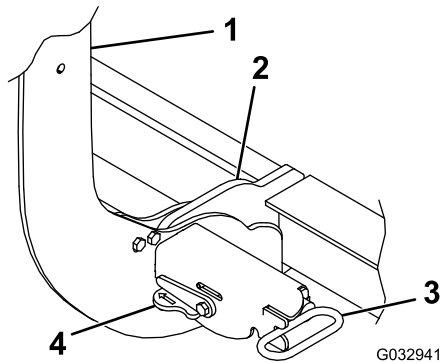

Figure 27
4. Turn the levers on the spring pins to the LOCK position (Figure 27).
- Ensure that both spring pins have fully engaged the coupler (Figure 27).